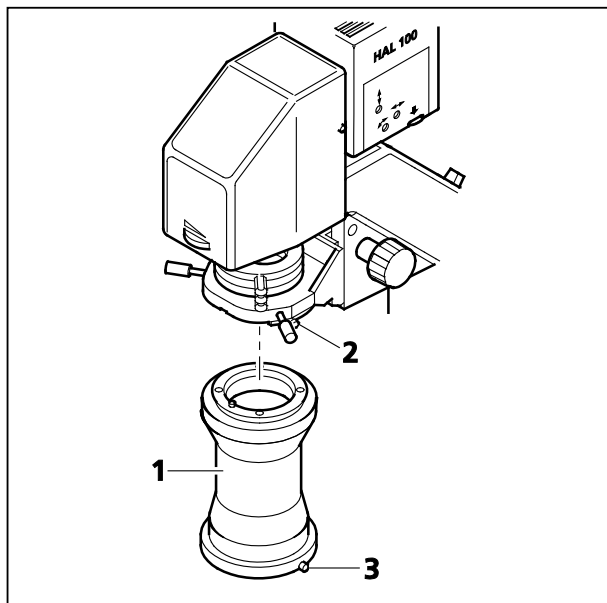

Fig. 32 Fitting the condenser mount
- Insert the condenser mount (Fig. 32/1) into the condenser carrier on the carrier for transmitted-light illumination with the dovetail ring facing upwards. Ensure that the locating pin on the condenser is at the front and engages precisely with the guide groove on the condenser carrier.
- Fix the condenser mount in place using the clamping screw (Fig. 32/2).
- Insert the required condenser into the dovetail ring of the condenser mount, checking that it is correctly orientated, and fix into position using the clamping screw (Fig. 32/3).